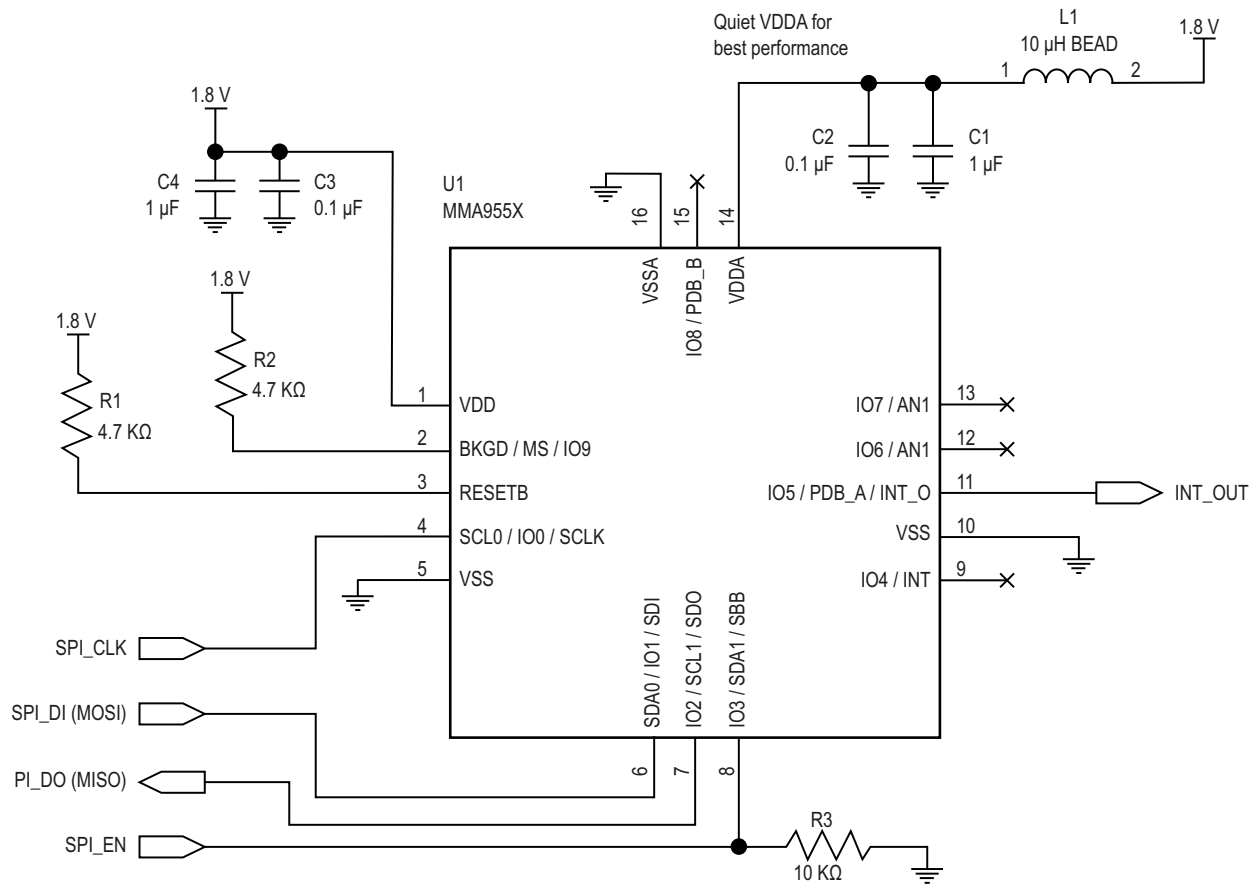
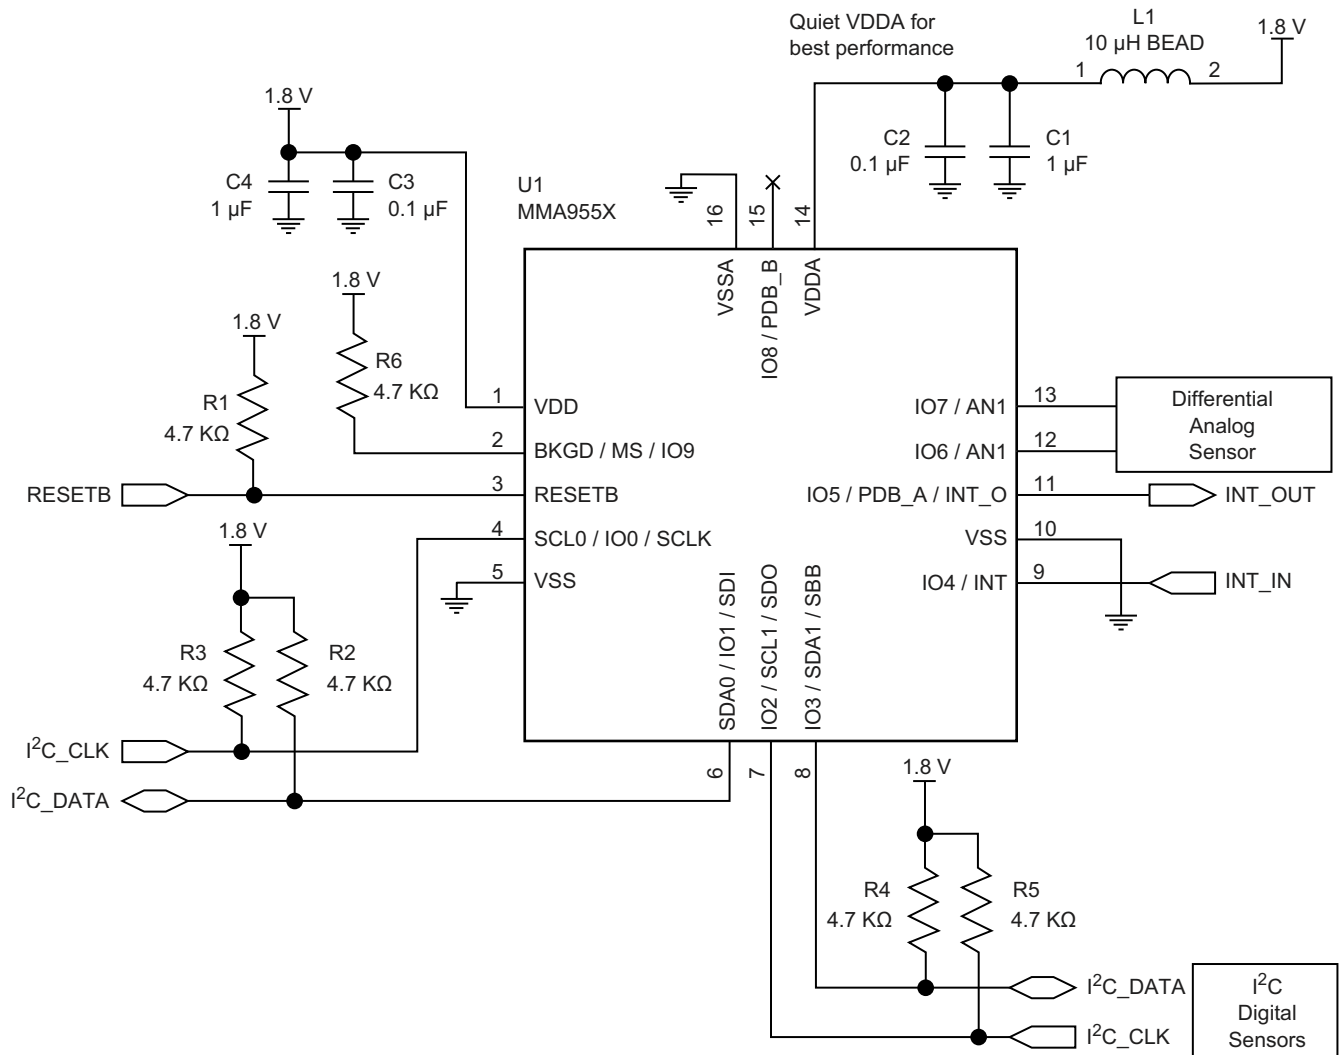

Figure 5. Platform as an SPI slave
Figure 6. Platform as sensor hub
**VDDA and VSSA:** Analog power and ground. VDDA is nominally 1.8 V. To optimize performance, the VDDA line can be filtered to remove any digital noise that can be present on the 1.8 V supply. (See Figure 5 and Figure 6 on page 15.)